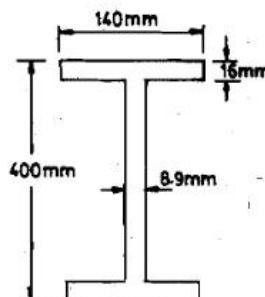

Fig.6
10. The section shown in Fig.6 is ISMB 400. Calculate plastic moment M_p , and shape factor. Take $\sigma_y = 250$ MPa.